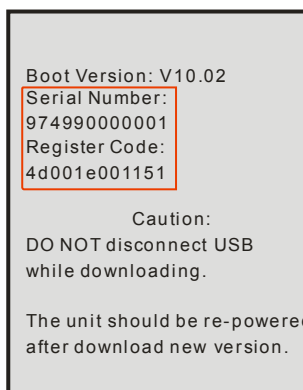

Figure 7-2
3. Press [OK] to configure this tool as a USB device. See Figure 7-2.